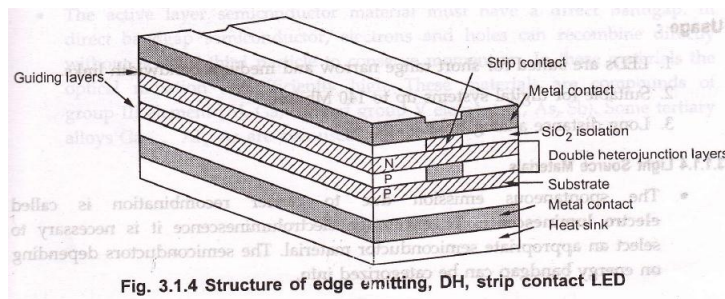

Fig. 3.1.4 Structure of edge emitting, DH, strip contact LED
- It consists of an active junction region which is the source of incoherent light and two guiding layers. The refractive index of guiding layers is lower than active region but higher than outer surrounding material. Thus a waveguide channel is formed and optical radiation is directed into the fiber. Fig. 3.1.4 shows structure of ELED.